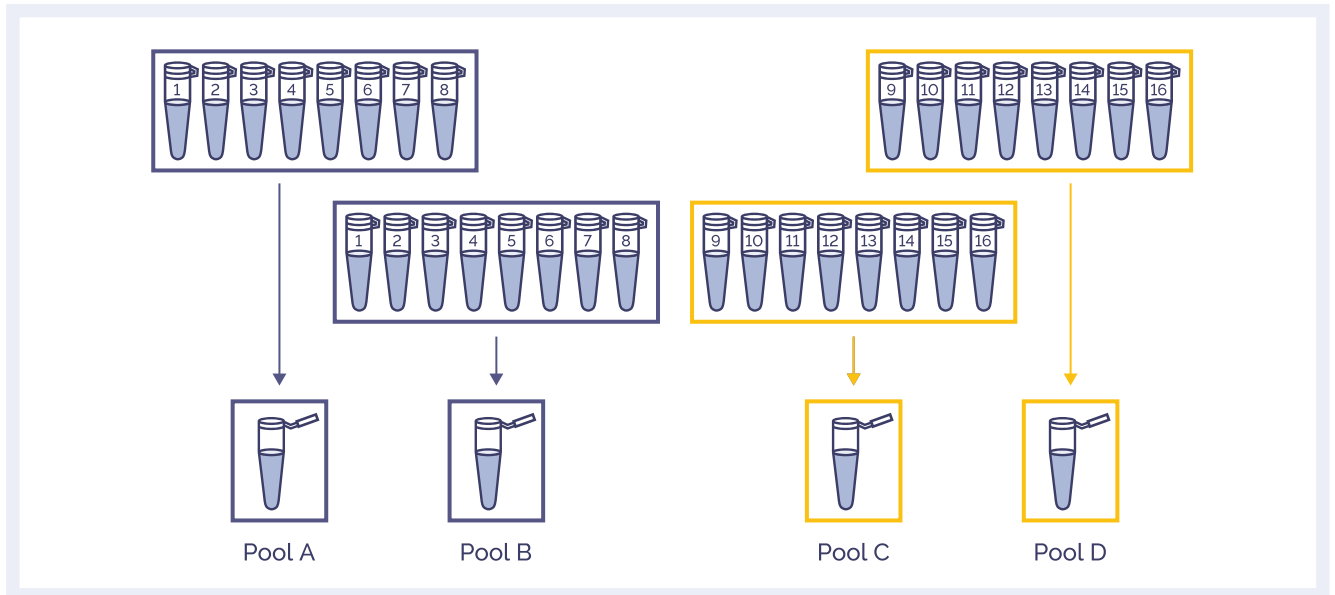

Figure 7: Pooling guide to pool 16 samples in four pools, each consisting of one strip of eight libraries.
- Aliquot 300 ng–500 ng of each of the eight libraries in a strip into a single 1.5 ml LoBind tube (see Figure 7).